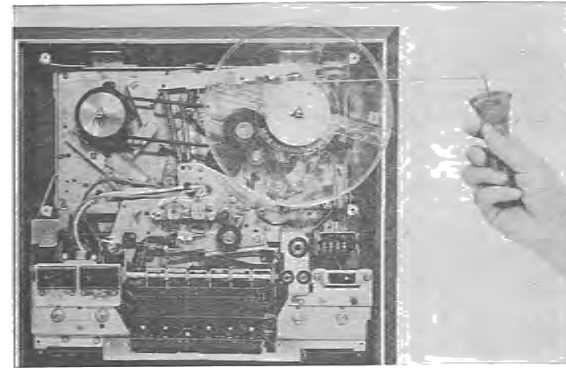

Fig. 23
- d) Takeup back tension.....15~35gr.....Fig. 23